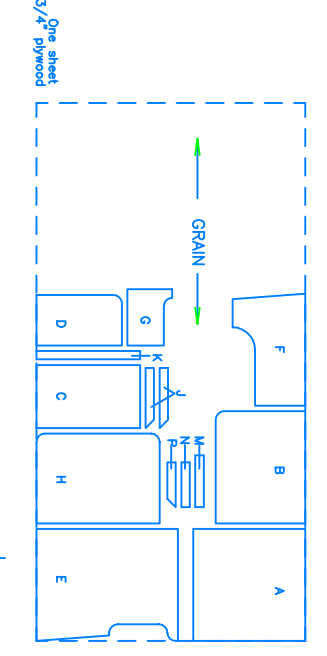

FIGURE 1
- 1) Lay out your material on the workbench, as outlined in the suggested material layout (Fig. 1). Draw out all parts exactly as illustrated in cutting diagram (Fig. 2), including the letter designations, in pencil. Cuture to leave a small space between cut lines to allow for the width of the sawkerp and to prevent the work from binding. Cut the parts in the correct Always cut on the waste side of the line. Cut the 3/4" rabbet for A & B with a router and guide. Chiselling out any all edges. Use the compass to draw the curves, the radii are given. Sand